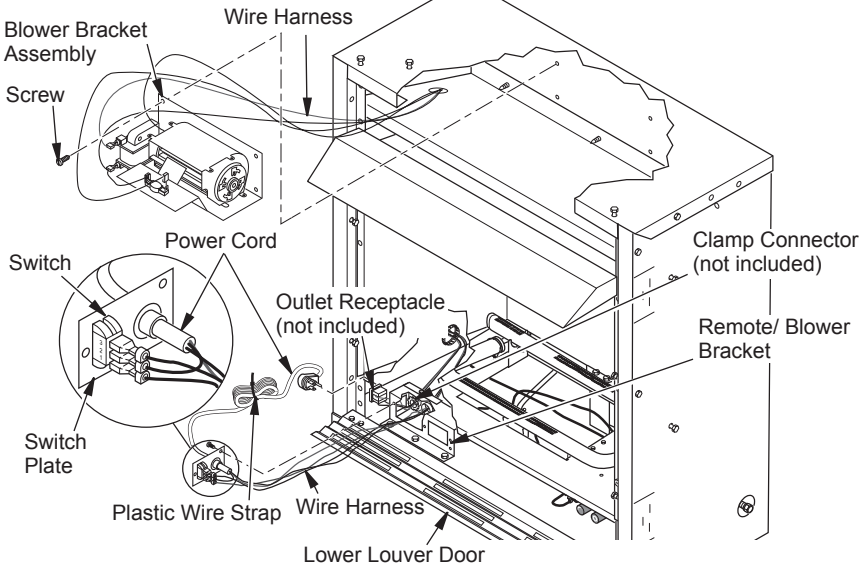

Figure 19 - Installing Blower Bracket Assembly
1. Install snap bushing from blower kit into one hole on rear of remote/blower bracket (see Figure 19). The other hole is for a strain relief clamp (not supplied) to secure incoming electrical supply.
4. Plug power cord to outlet receptacle (not provided) as shown in Figure 19. Wind the extra power cord and tie with plastic wire strap (see Figure 19). Set power cord bundle between the remote/blower bracket and outer casing, away from the burner.